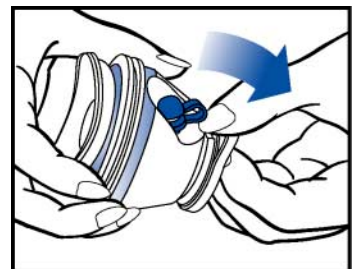

Figure 5
5. Locate notch at small end of Express Cup and roll off liner with thumb. See **Figure 5**.